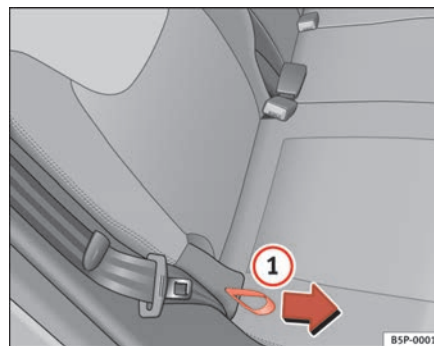

Fig. 98 Rear seat backrest angle adjustment
- Hold the backrest at the top. Pull the loop on the side of the seat ⇒ page 132, fig. 98 ① in the direction of the arrow and hold the loop in this position. Push the backrest to the required position and release the loop.